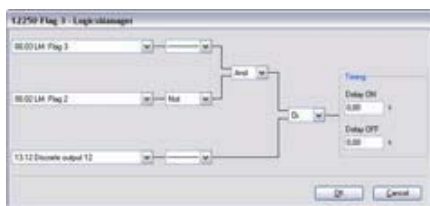

Fig. 193: LogicsManager function "Flag 3"
4. ➔ Configure the LogicsManager function "Flag 3" as shown in (Fig. 193).